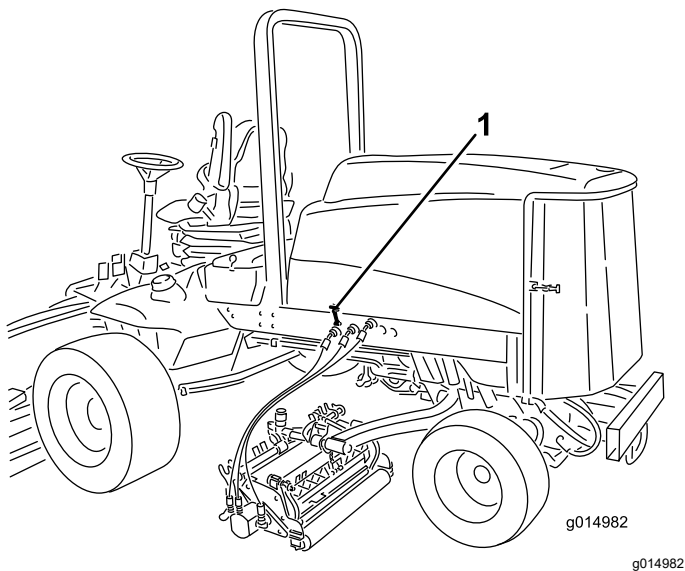

Figure 4
1. Unhook the hood latch from the hood latch bracket (Figure 4).